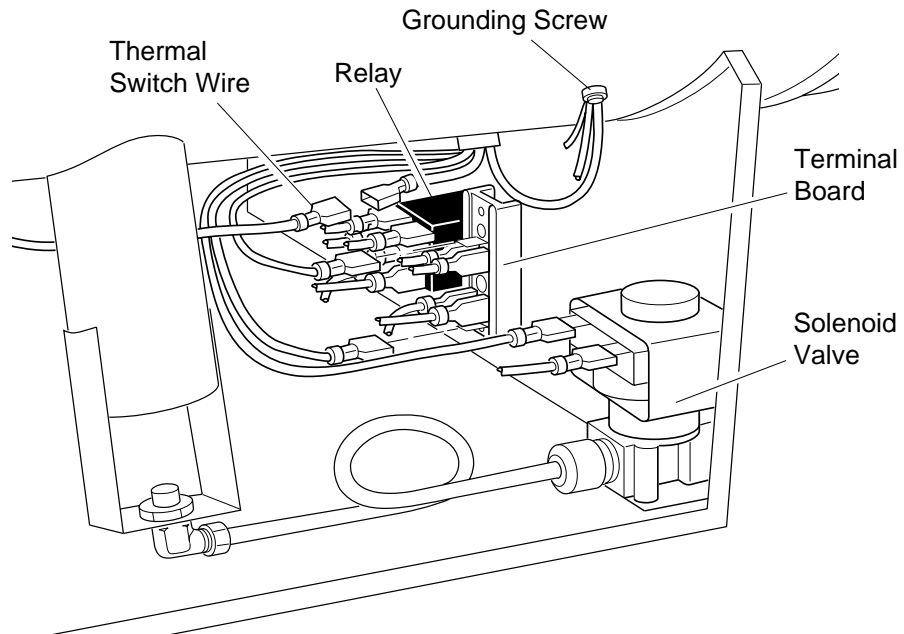

Figure 6 - Location of Motor Wires
21. Connect motor wires as follows (see Figure 6, page 10):